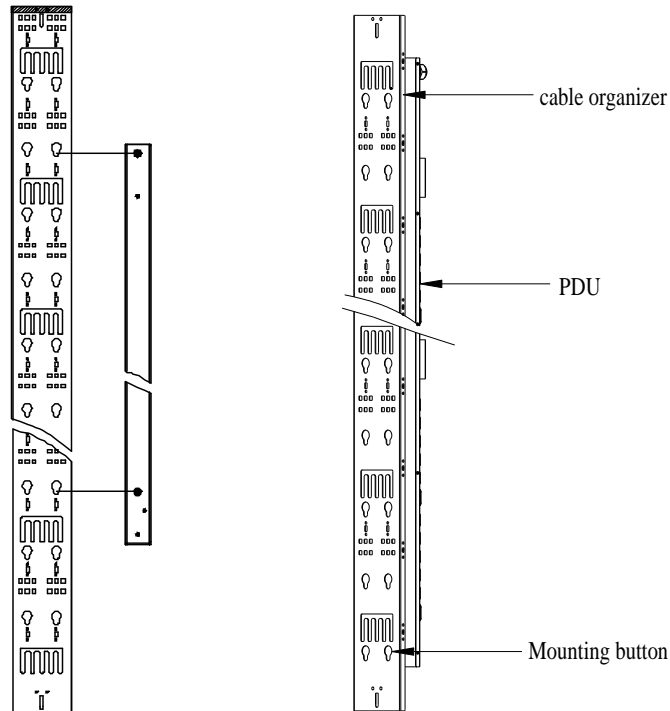

Figure 2-2 PDU Tool-less Installation
- 2) Press down the PDU until it is firmly clamped and locked, as shown in Figure 2-2.